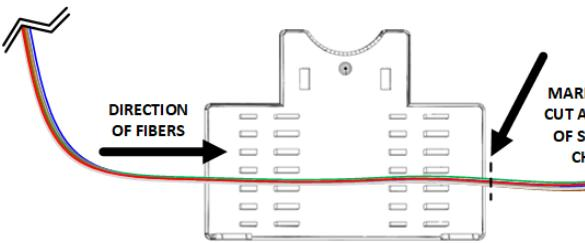
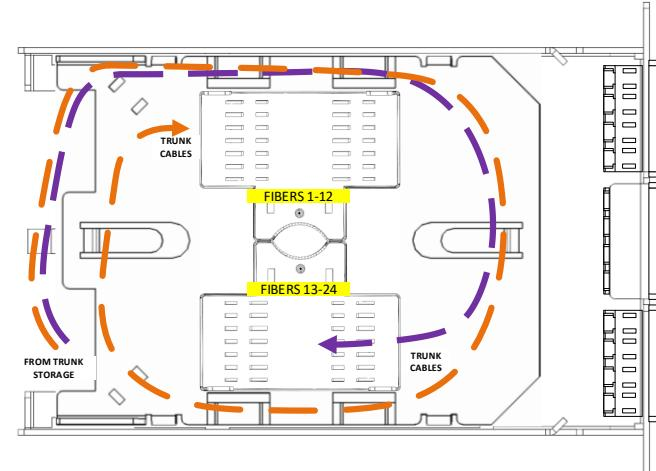

Figure 4
Figure 7
3.5 Recoil two loops of slack in the top cable storage area. Place the Splice Deck into the base. Route the pigtail fibers as shown in **Figure 3**. Route the grouping through the center of the splice chip. Mark and cut the grouping of 12 fibers at the exit point of the target splice chip as shown in **Figure 4**. Cut the fibers at the mark, de-install the pigtail slack from the module and set aside for splicing.
3.9 Place the splice deck in its installed position and route the trunk fibers onto the splice deck. Route the trunk fibers by groups and as shown in **Figure 7**. Mark the grouping of 12 fibers at the exit point of the target splice chip as shown in **Figure 4**. Cut the fibers at the mark, de-install the trunk cable from the module and set aside for splicing.